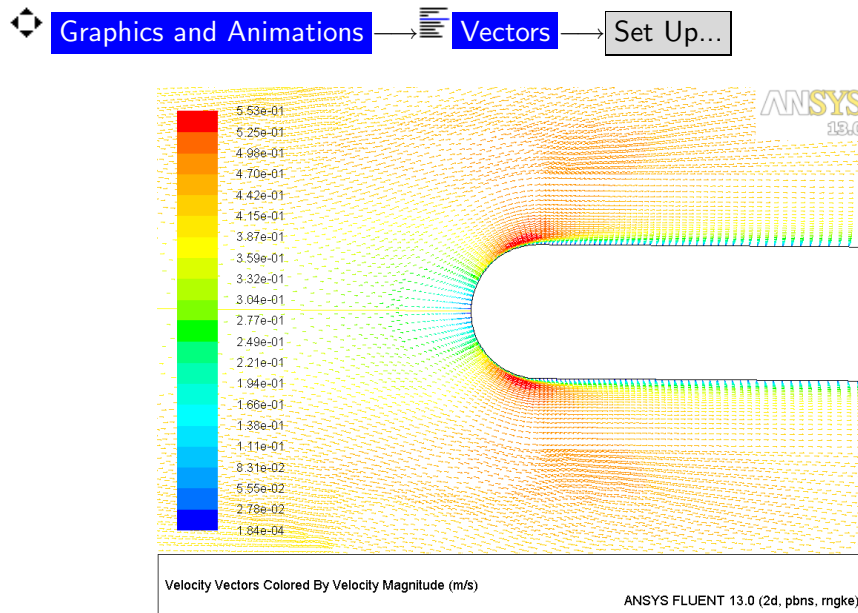

Figure 9: Velocity Vectors at the Front Showing the Stagnation Point Region
4. Display velocity vectors (Figure 9).